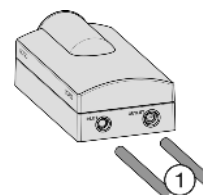

Fig. 55
- ▶ On the thin hose, measure the insertion depth (E) of 11/16" (17 mm) and mark it.
- ▶ On the thick hose, measure the insertion depth (E) of 13/16" (20 mm) and mark it.
- ▶ Insert the hoses *Fig. 55 (1)* all the way into the water filter module (i.e., up the the mark you made), past the point of resistance.